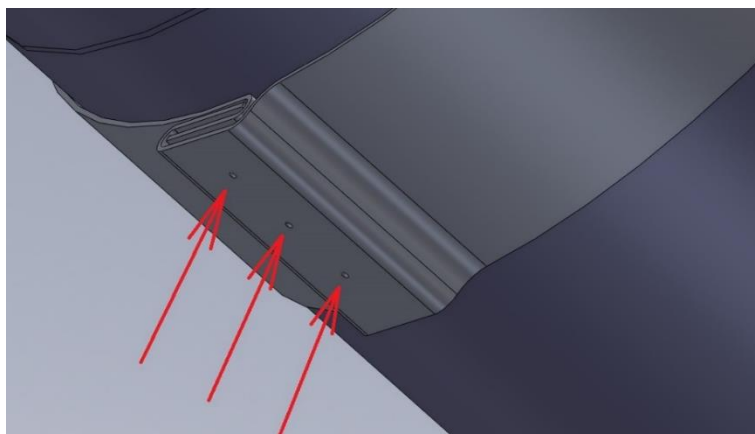

Fig. 8
- Secure the joint with three punches – see Fig. 8.